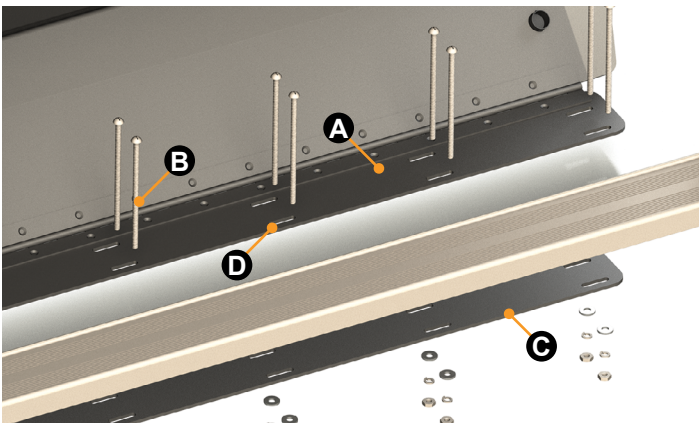

Fig.6
B. For laminate flooring, drill two holes straight down with the $\frac{13}{64}$ " drill bit via the access holes located in the top of the mounting plate. Insert two #10-4" bolts into the mounting plate through the floor through the backer plate (Fig.2B) and secure with the plain washers, lock washers and then the nuts provided. Refer to Figure 6 for backer plate info.